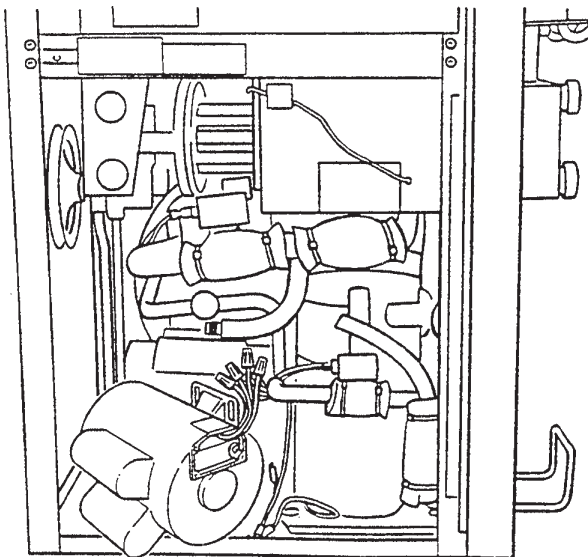

Figure 66. Drive Motor Wire Removal
3. Turn the motor and remove the electrical cover plate. Identify and disconnect the four electrical wires (Figure 66).